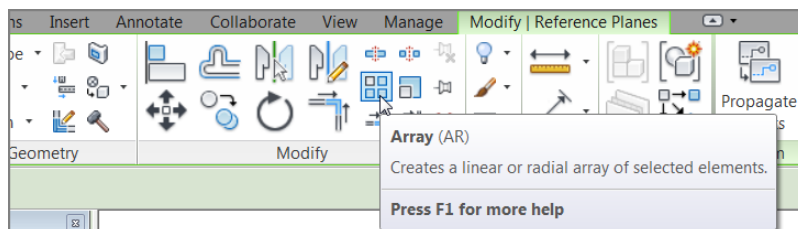

FIGURE 4.11: Select the item to be arrayed first, and then click the Array button on the Modify | Reference Planes tab.
2. On the Modify | Reference Planes tab, click the Array button, as shown in Figure 4.11.